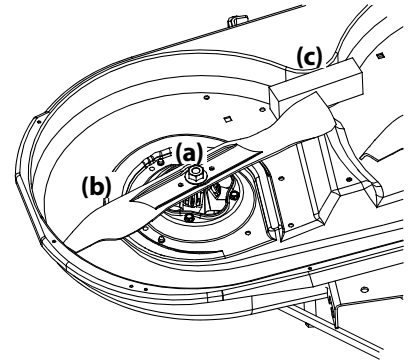

Figure 4-22
2. Use a $\frac{1}{8}$ " wrench to hold the hex nut on top of the spindle assembly when loosening the hex nut (a) securing the blade (b). A block of wood (c) may be placed between the deck housing and the cutting edge of the blade (b) to help in breaking loose the hex nut (a) securing the blade. See Figure 4-22.